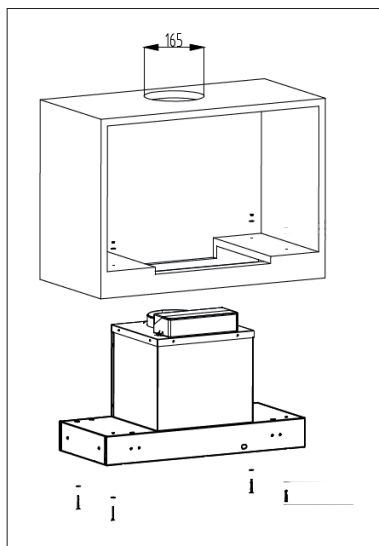

Fig. 6
5. Drill holes and attach the hood according to Fig. 6.